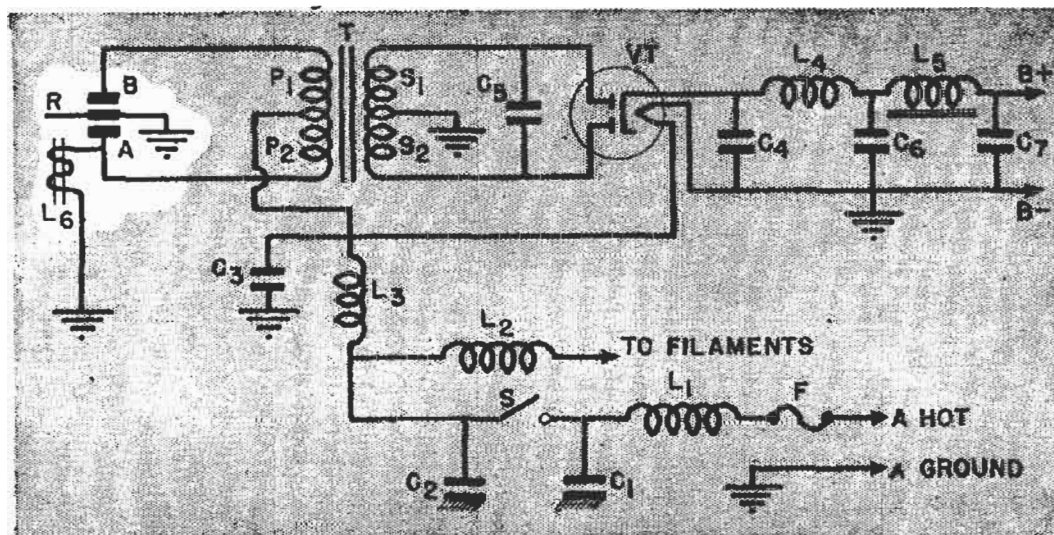

FIG. 30. A typical non-synchronous vibrator type power supply.
**Non-Synchronous Vibrator.** The circuit of a typical vibrator system is shown in Fig. 30. When switch  $S$  is closed, the circuit is completed from the storage battery to the tube filaments through choke  $L_2$ . (Tubes having 6.3-volt filaments are used, with the filaments in parallel.) The vibrator supply and rectifier tube filament current flows through  $L_3$ .
33) is similar to that described for Fig. 30. Current flows through choke  $L_1$ , through primary winding  $P_2$ , and through coil  $L_3$ . Coil  $L_3$  attracts the vibrating reed  $R$ . When the moving reed touches the contact going to 4, coil  $L_3$  is short-circuited and the reed flies back to the other side.